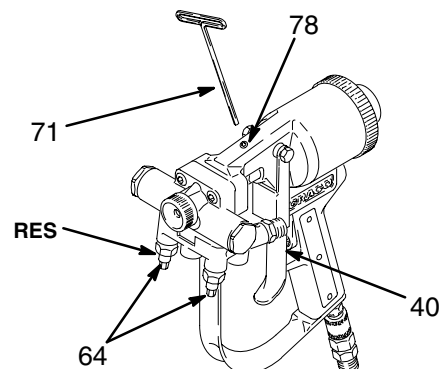

Fig. 20 04457
- a. Lock the trigger safety (40).
- b. Close the needle valves (64).
- e. Lock the trigger safety again. See Fig. 20.
- f. Using a hex key wrench (71), screw in the set-screw (72) of the clean-out hole until no air or almost no air is escaping. See Fig. 20.